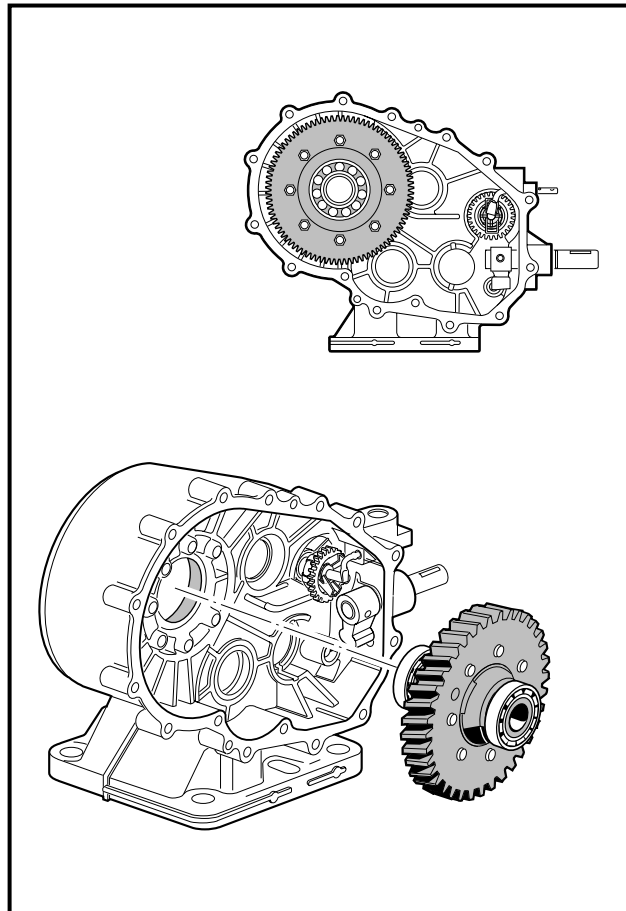

Figure 19-49 Differential Gear Assembly
- 7.1. Stand the left side case on the mounting plate, and install the differential gear case assembly (**Figure 19-49, Page 19-24**). Do not seat the assembly in the bore. Instead, insert it just far enough that it will not fall out.